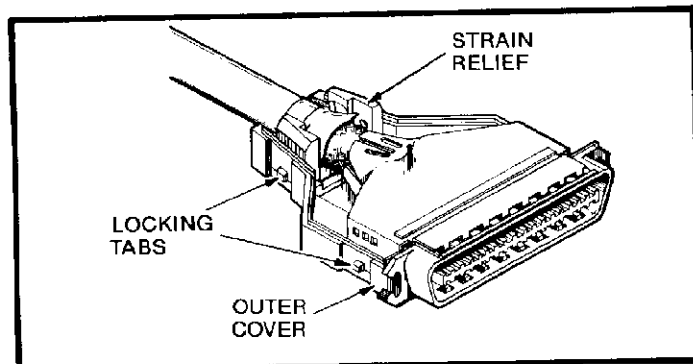

Fig. 8
2. Press shielded assembly into tongue side of cover by sliding cover tabs in slots where outside shield overlaps inside shield (see Figure 8).